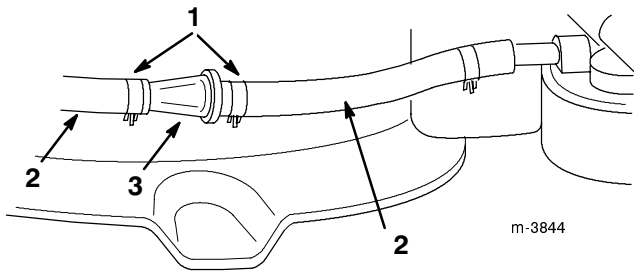

Figure 33
Replace the fuel filter after every 100 operating hours or yearly. The best time to replace the fuel filter (Fig. 33) is when the fuel tank is empty. Never install a dirty fuel filter that has been removed from the fuel line.
- Squeeze the ends of the hose clamps together and slide them away from the fuel filter (Fig. 33).